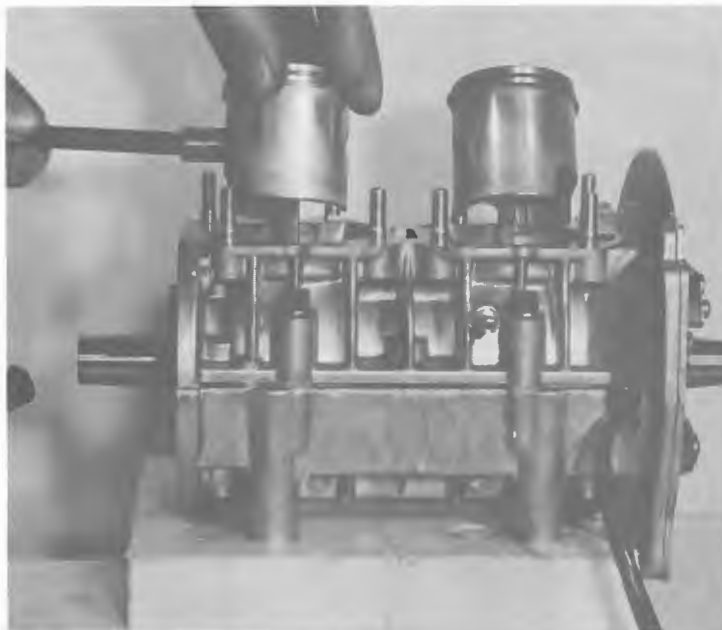

FIGURE 5-3 INSTALLING PISTONS
5.2.2 Pistons, Piston Rings and Pins (See Figure 5-3)